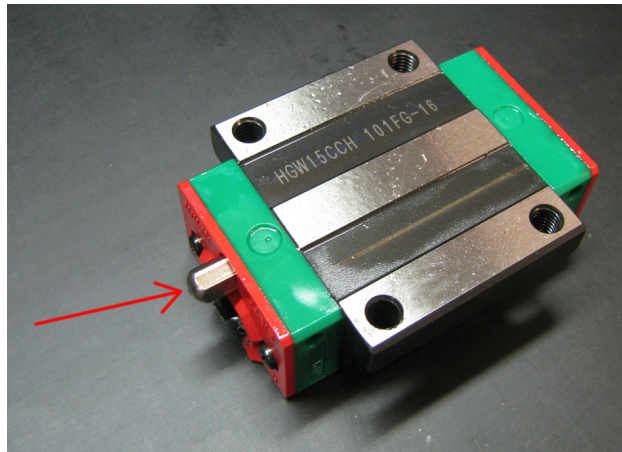

Figure 2.1:
- Mount the grease nipple to the Hiwin carriage as shown in figure 2.1: